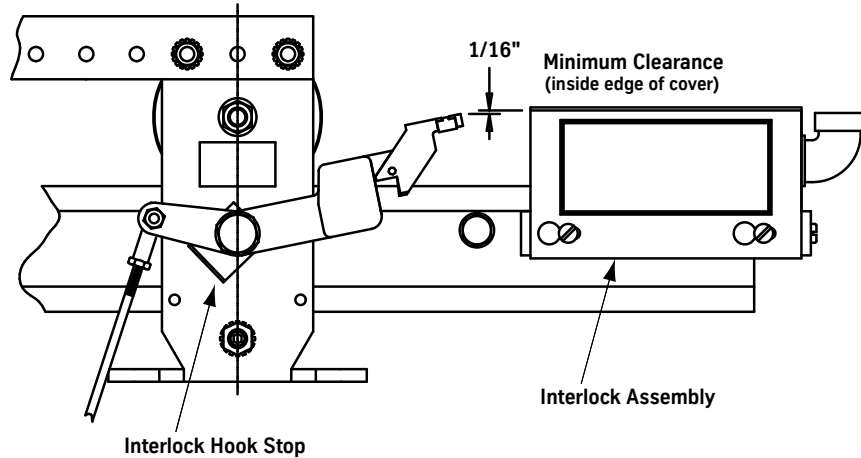

Figure 43 - Adjust the Interlock Hook Stop
7. Ensure that when the interlock hook is raised (by actuation of the rollers), the hook clears the box at the top by a minimum of $1/16"$. See Figure 43.